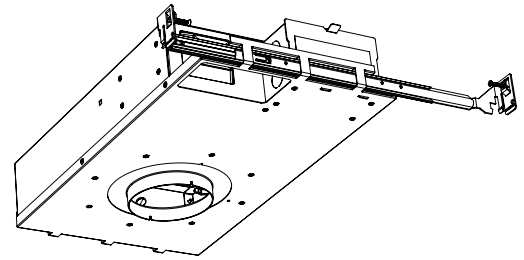

fig. 3
- d. Insert the outer hanger bar into the same housing clasps, locking the inner and outer halves together. Tighten the hanger bar lock screw. Make sure the screw is on top (see fig. 3).
- b. Screw the ends of both bars into the wooden joists, fixing the housing in place (see fig. 3).